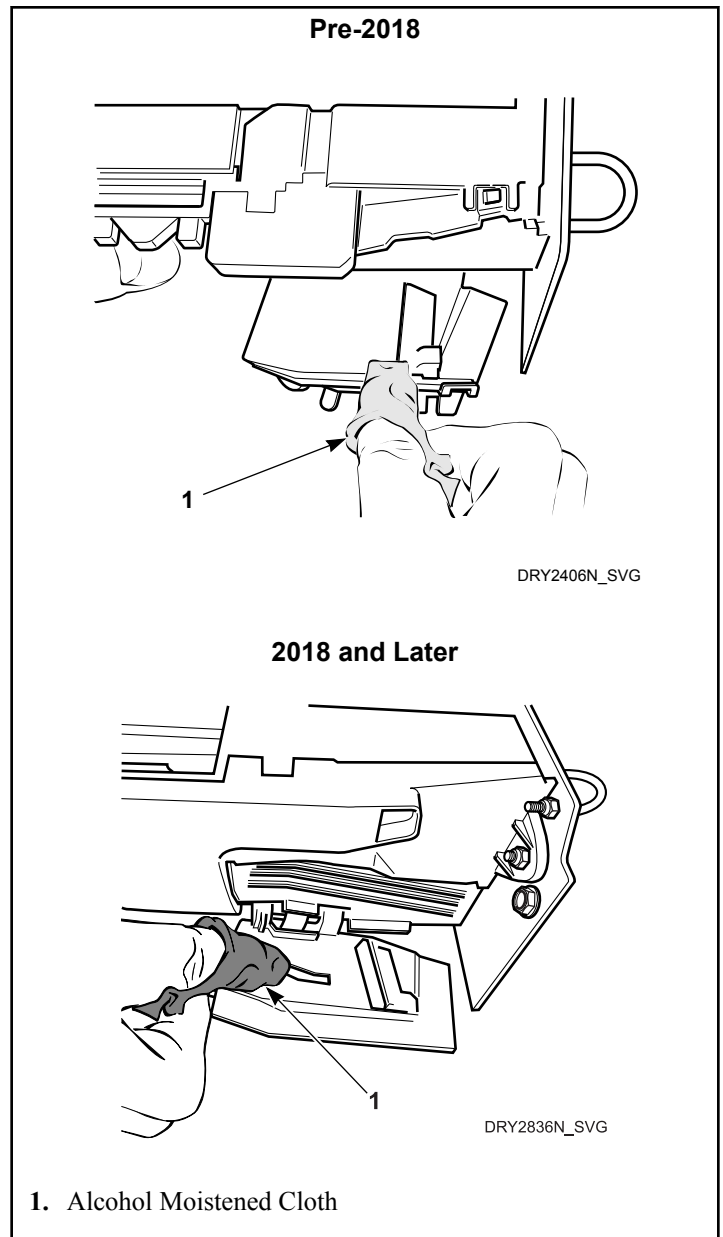

Figure 37
5. Clean residue from coin rail with an alcohol moistened lint-free cloth. Refer to *Figure 37*.